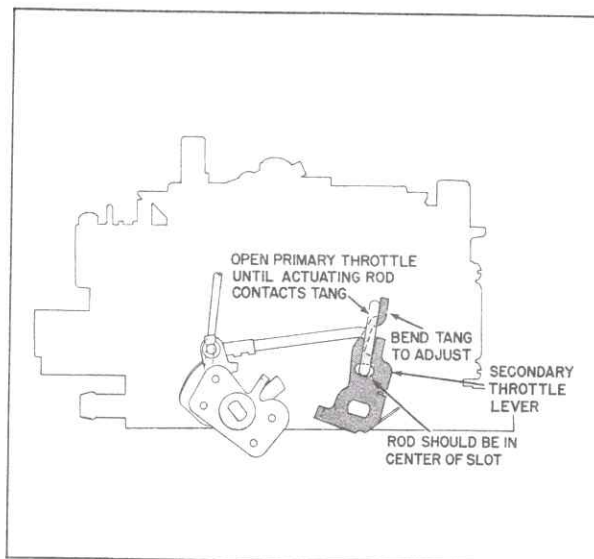

Fig. 6-102 Secondary Throttle Opening Adjustment
### 84. Secondary Throttle Opening Adjustment (Fig. 6-102)
2. Bend tang on secondary throttle lever, Fig. 6-102, if necessary to adjust.